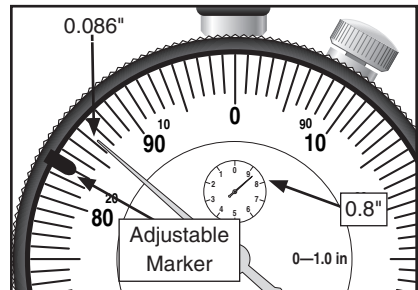

Figure 10. Reading a dial measurement.
- To read the dial as a whole, read the value of the small dial first, and then add the value of the large dial. The dial in **Figure 10** shows a reading of just over 0.886".
The rim of the dial indicator is fitted with two adjustable markers, which can be moved even with the dial locked in position. These are very useful when performing range testing. **Figure 10** shows one of the adjustable markers at the 0.083" position.